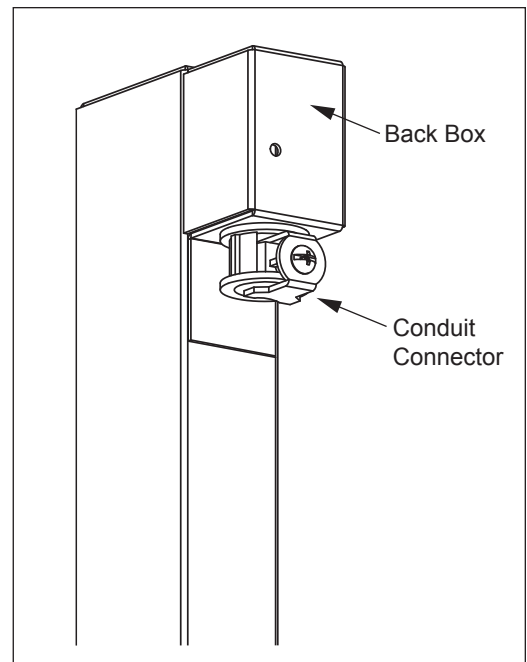

Figure 3
1. Pull the flexible metal conduit (FMC) with the building power through the opening cut in the mounting surface. Insert the building power wires through the conduit connector and into the Back Box. Secure the FMC to the conduit connector. (See Figure 3)